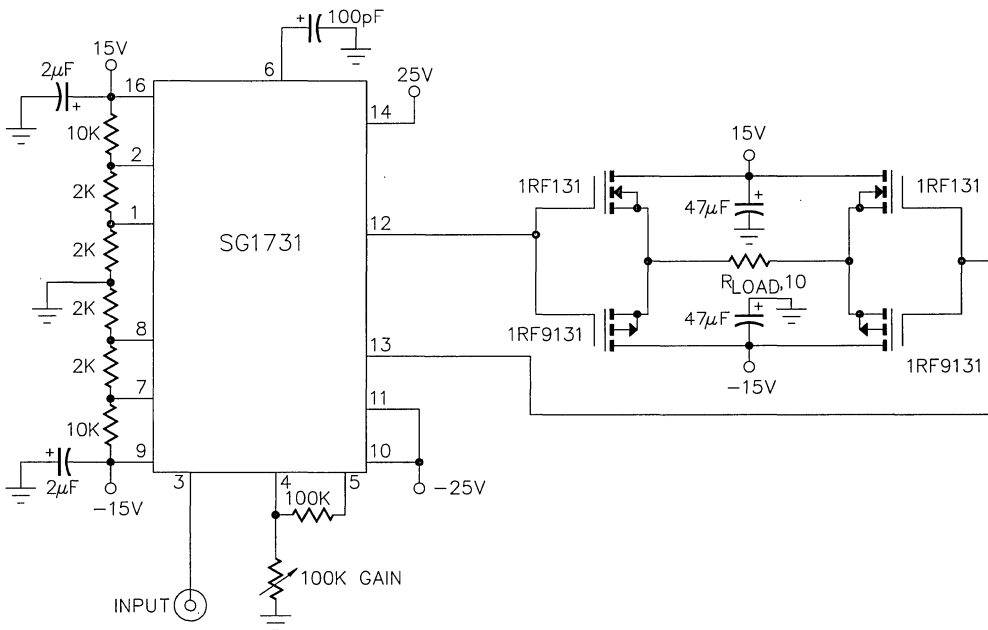

Figure 10. A Switched-Mode Power Amplifier Using a 25-kHz Carrier Transmits a 400-Hz Waveform to a Load
**Fig 10** shows the 1731 set up to deliver high power to a 10 $\Omega$  load via complementary power FETs. The device's output stage swings  $\pm 25$ V, providing a 10V enhancement for turning on the FETs. The active 1731 outputs are ideal for driving power FETs because they can both source and sink the relatively high gate currents caused by the FETs' input capacitances. **Fig 11** shows the waveforms associated with this circuit.
Figure 11. In These Waveforms for Fig. 10's Amplifier, Trace A is the Amplifier's Input, Traces B and C the 1731's Outputs and Trace D the Waveform Across the Load. Trace E, a 3-kHz Filtered Version of Trace D, Shows That Power Density Approximates Input Signal